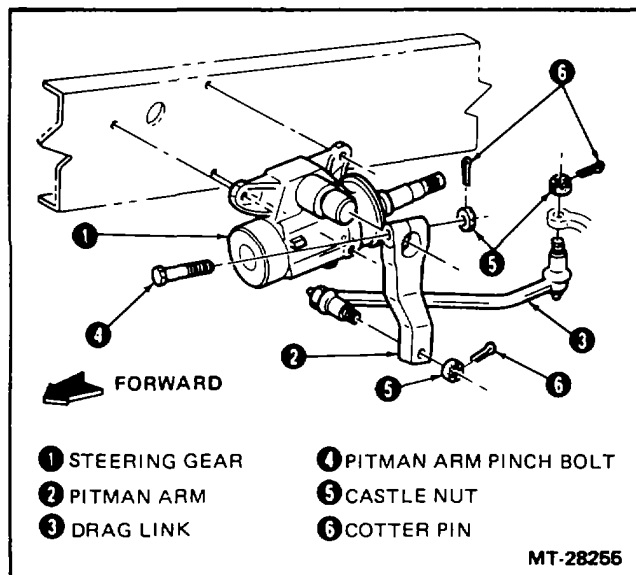

Figure 8 - Pitman Arm and Drag Link Installation
- 1.Remove the cotter pin and nut from the drag link ball stud at the Pitman arm (Figure 8).
Refer to Figure 8.